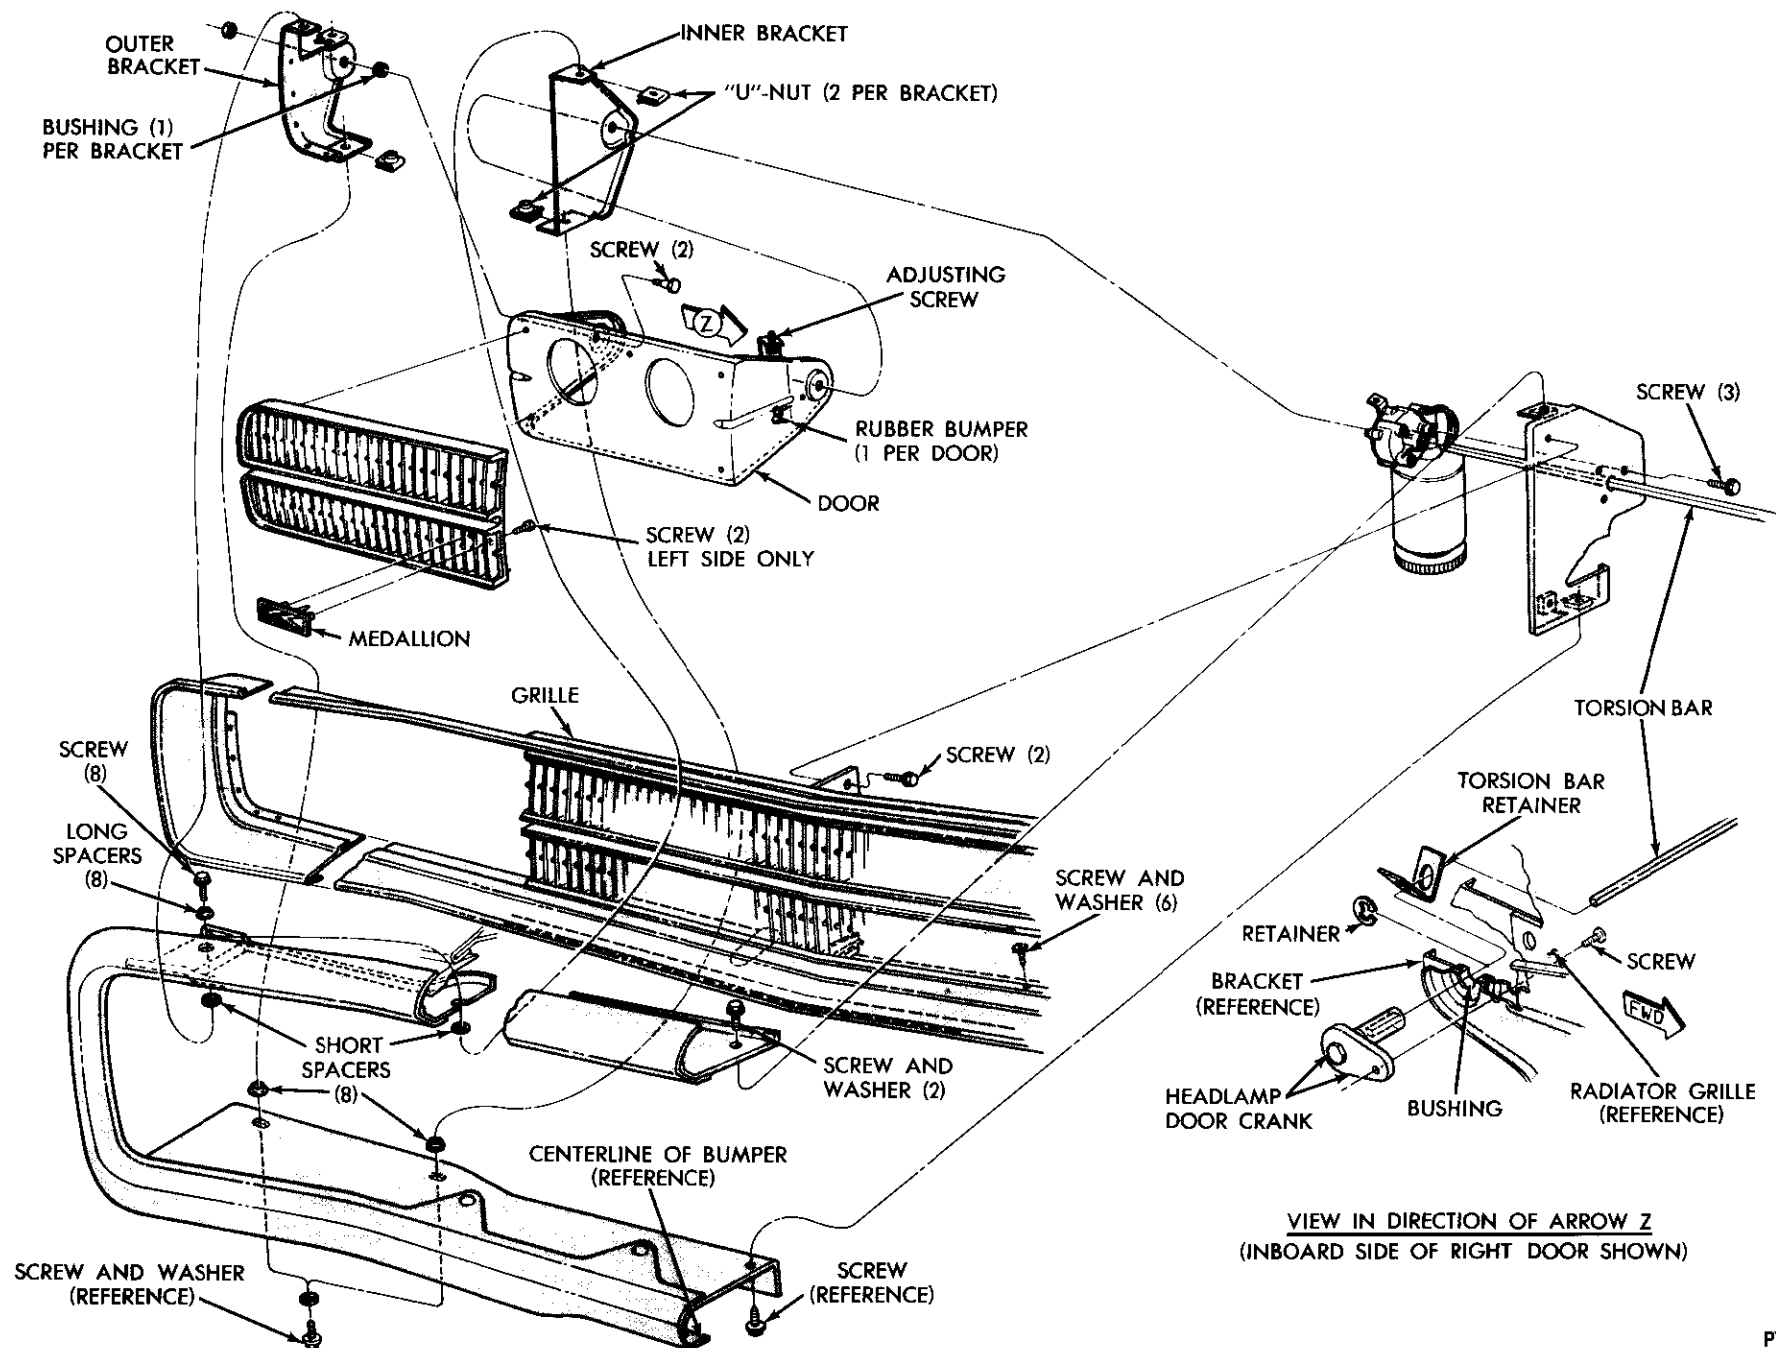
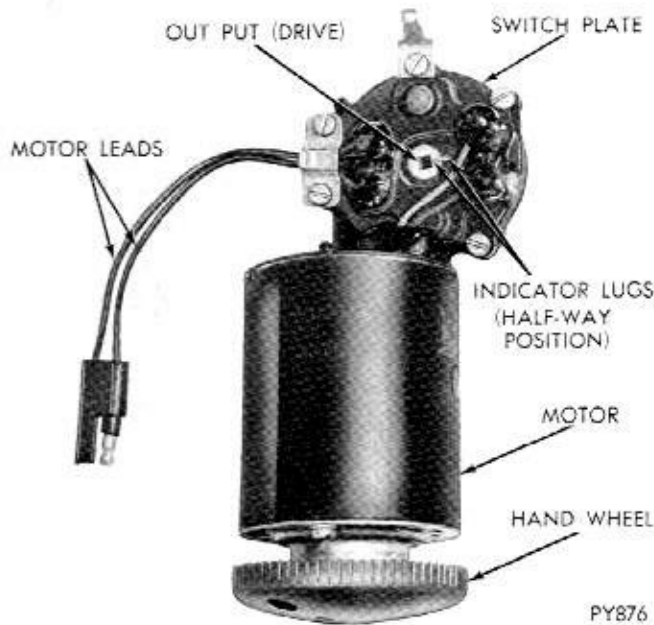

Fig. 1—Concealed Headlamps Adaptation
Fig. 2—Manually Aligning Indicator Lugs
The headlamp doors (Fig. 1) are electrically operated. A single electric motor mounted behind the center of the grille is a series-wound type with two field windings. The motor has a worm gear drive and internal limit switches. A relay and circuit breaker assembly is mounted to the instrument panel lower reinforcement, left of the steering column.
(1) Disconnect motor leads at harness connector (Fig. 1).
(2) Rotate motor hand wheel counterclockwise if doors are closed; or clockwise (Charger) if doors are open; until headlamp doors are at the halfway open position (indicator lug on motor switch plate and lug on gear near rectangular hole are in alignment. Fig. 2).
(3) Compress torsion bar to headlamp door crank clip and slide clip from crank (Fig. 1).
(4) Force the torsion bar from the crank arm slot by wiggling the door up and down with one hand
- (5) Remove inboard sealed beam units.
- (6) Remove retainer clip from crank assembly (Fig. 1).
- (7) Remove screw holding the crank assembly to the door arm at the inboard side of door.
- (8) Remove crank assembly from headlamp door.
- (9) Remove idler pin from outboard side of door.
- (10) Remove door from opening.
- (1) Position door in grille opening, align crank assembly holes and insert crank.
- (2) Align idler pin holes and install idler pin.
- (3) Install retainer on crank.
- (4) Install screw on side of door, attaching the crank assembly to the door.
- (5) Position and fully seat torsion bar in slotted area of crank. (Check that the motor is in halfway open position, Fig. 2).
- (6) Compress and position clip over crank and torsion bar.
- (7) Install headlamp sealed beam units and connect battery ground strap.
- (8) Connect motor leads at harness connector (Fig. 1).
- (1) Disconnect battery ground strap.
- (2) Disconnect motor leads including ground wire from harness.
- (3) Rotate the hand wheel on the motor counter-clockwise if doors are closed; or clockwise if doors are open; until headlamp doors are at the halfway open position (Fig. 2).
- (4) Compress and remove clips from crank assemblies (Fig. 1).
- (1) Insert torsion bar in motor and position clips on bar. **The torsion bar and the hole in the motor are slightly rectangular and can be assembled only one way.**
- (2) Position motor on motor mounting bracket and install mounting screws. Verify that the motor is in the halfway open position (Fig. 2). Tighten attaching screws to 95 inch pounds, plus or minus 20 inch pounds.
- (3) Position and fully seat torsion bar in slotted areas of cranks. Compress clips and position over cranks and torsion bar.
- (4) Connect motor to harness and connect battery ground strap.
- (5) Test operation of doors.